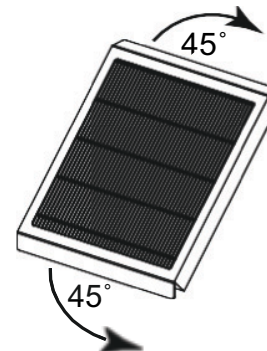

Fig. 27 – Bend Flaps to 45°
12. Bend the two MERV13 flaps down to form a 45-degree angle (Fig. 27).